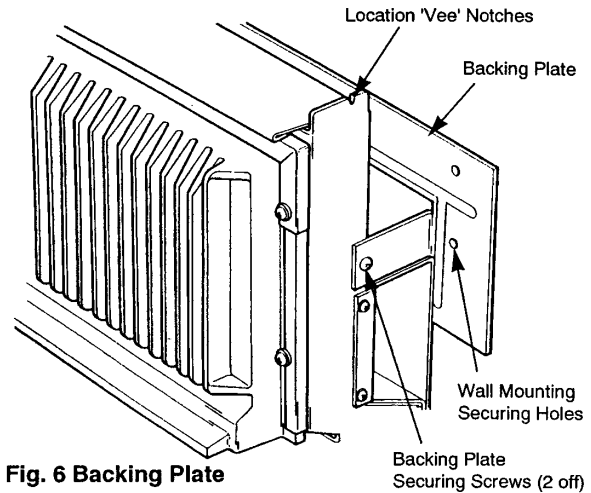

Fig. 6 Backing Plate
- (a) Fit the fire backing plate to the fire using the M5 x 8mm thread forming screws provided. The backing plate may be screwed to the wall for extra support if necessary (Fig. 6).
- (b) Fit the fire backing plate to the fire using the M5 x 8mm thread forming screws provided.(Fig. 6)
- (e) Push the fire backwards until the fire backing plate touches the surround or finished wall face. Mark the position of the two lower securing holes in the fire backing plate (Fig. 6).
- (b) Lift the outer case over the heat exchanger and locate the two 'vee' notches in the top of the case into the vee' notches at the top of the heat exchanger support legs (Fig. 6).